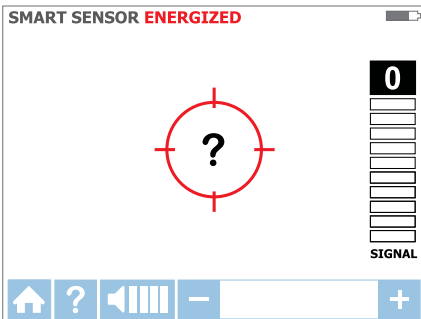

Figure 3.1d: No signal detected
3. Hold the Receiver with the Smart Sensor™ facing the target area. If the screen flashes a “?” in a red target then no signal is detected (Figure 3.1d). Move the Smart Sensor™ closer to the target area until the signal is detected and you see a directional arrow. If no signal is detected increase the sensitivity using the “+” button on the Receiver.\*